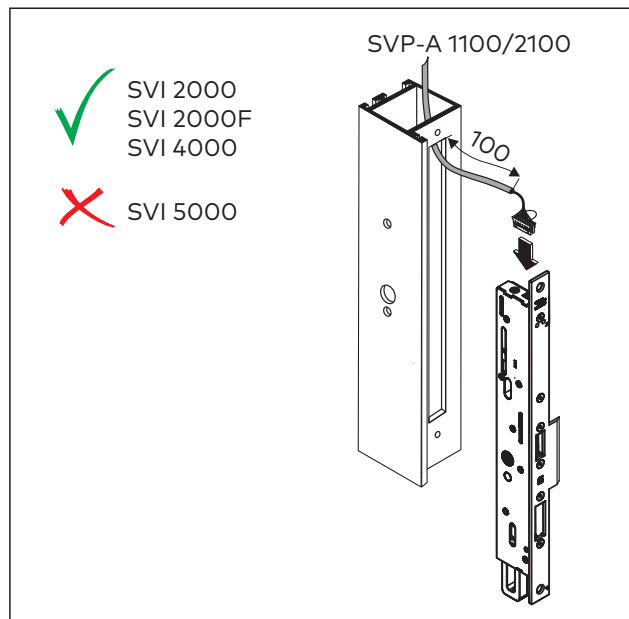

Fig. 32 Connect cable
3. Pull in the connecting cable SVP-A 1100/2100 and connect it to the lock (Fig. 32).